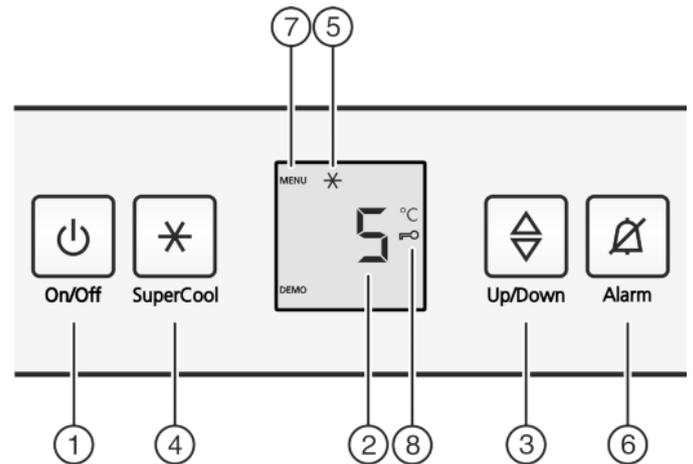

Fig. 2
- ▶ Press the On/Off button Fig. 2 (1).
- ▶ Press the SuperCool button Fig. 2 (4) for about 5 seconds.
- ▷ The Menu symbol is shown on the display, Fig. 2 (7).
- ▶ Confirm briefly with the SuperCool button Fig. 2 (4).
- ▶ Confirm briefly with the SuperCool button *Fig. 2 (4)*.
- ▷ The child lock symbol, *Fig. 2 (8)*, lights up on the display.
- ▶ Briefly press the On/Off button *Fig. 2 (1)*.
- ▶ Press alarm button *Fig. 2 (6)*.
- ▶ Call up temperature function: press the setting button *Fig. 2 (3)*.
- ▶ Change the temperature in 1 °C steps: Press the setting button *Fig. 2 (3)* until the required temperature is indicated in the temperature display.
- ▶ Briefly press SuperCool button *Fig. 2 (4)*.
- ▷ The SuperCool symbol *Fig. 2 (5)* lights up in the display.
- ▷ The SuperCool symbol *Fig. 2 (5)* goes out in the display.